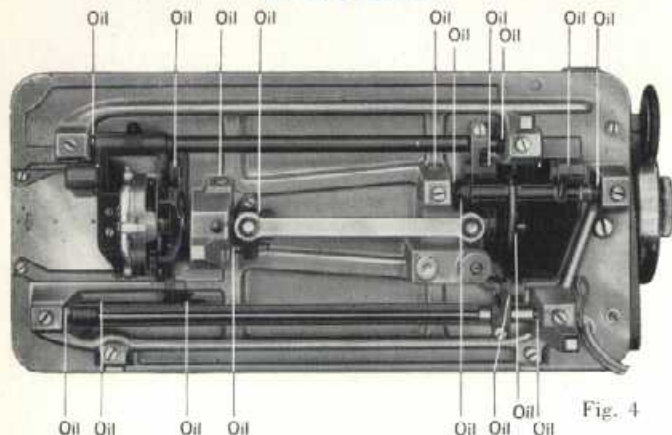

Fig. 4
- Tilt the machine back on its hinges, so that the underside is accessible, and apply a drop of oil to all oiling points indicated in Fig. 4 by pointers.